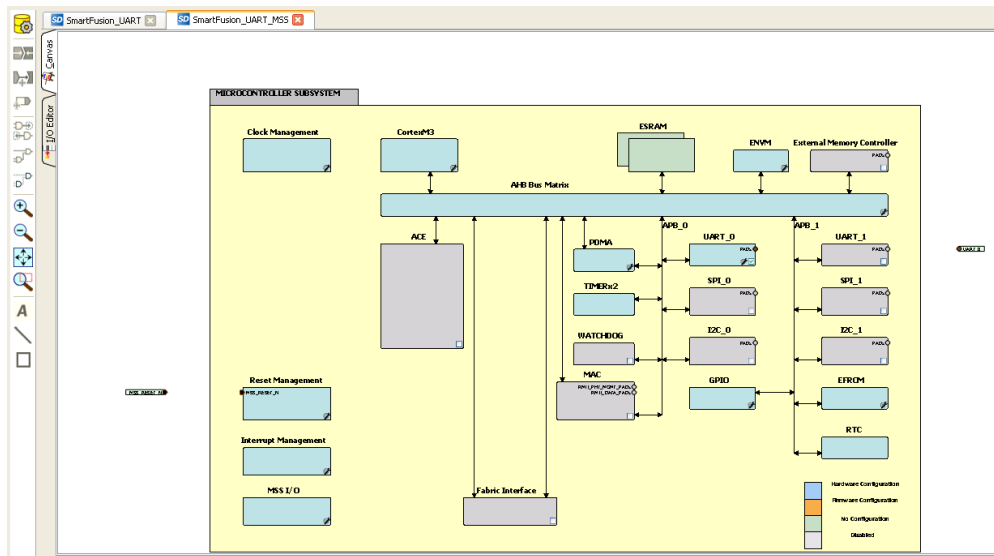

Figure 7 · Used MSS Peripherals
- After disabling the peripherals, the SmartDesign canvas looks similar to Figure 7 .